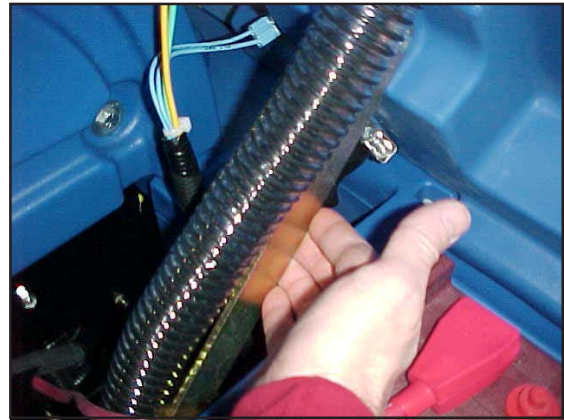

Figure 24
1. To inspect batteries, tip up recovery tank until it locks in up position. See Figure 24.